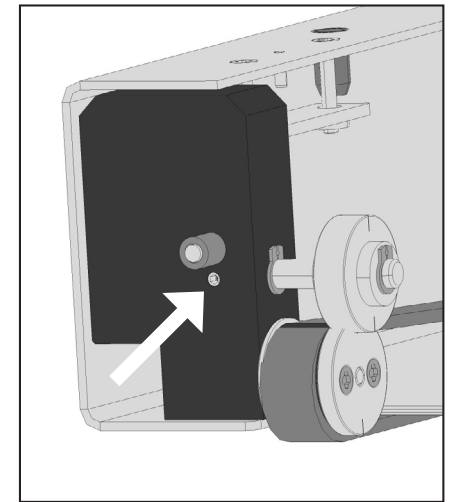

Figure 60: The set screw that secures the top cogged timing belt roller
6 Loosen the two (2) Phillips flat head screws on the outside of the chassis that secure the block holding the cogged timing belt roller for the timing belt you are replacing. If you are replacing the timing belt that has two instead of a single cogged roller, you will also need to loosen the 1.5-millimeter hex socket set screw that secures the top cogged roller inside the roller block (see Figure 60).